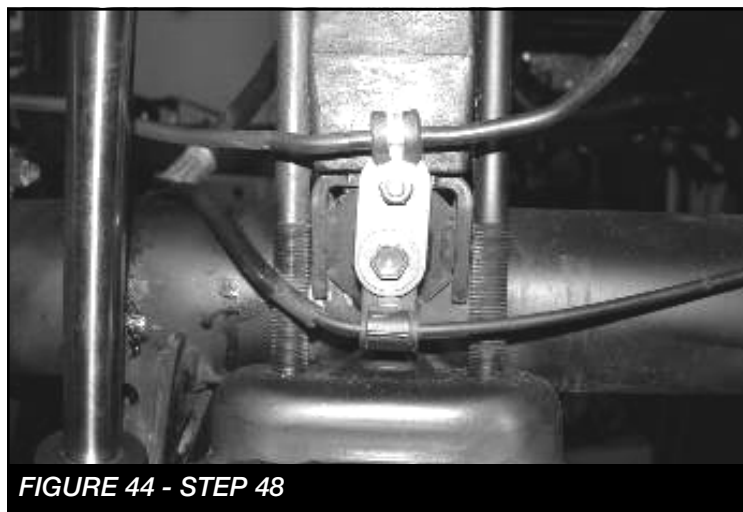

FIGURE 44 - STEP 48
48. Locate FT70065 rear brake line small tab driver side. Attach to the factory perch using the factory hardware. Attach the factory bracket using the supplied 1/4" x 1" bolt, nut, & washers. **SEE FIGURE 44**